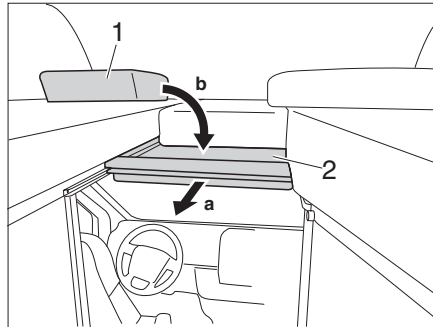

Fig. 54 Driver's cabin partition
- Pull the bed foundation (Fig. 54,2) to the front at the handle.
- Place the cushion (Fig. 54,1) onto the bed foundation.
- Lay the cushion (Fig. 54,1) to the side
- Slide the bed foundation (Fig. 54,2) to the rear.